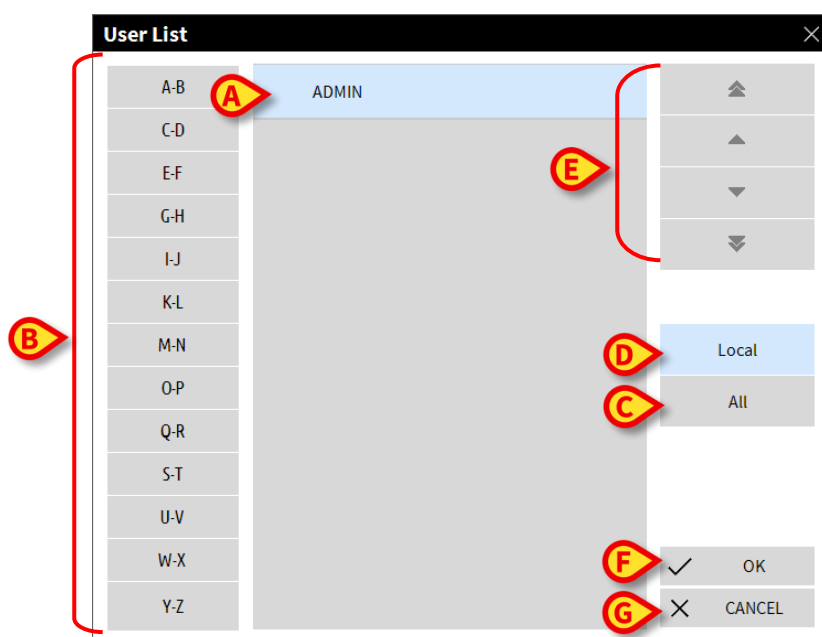

Fig 12
The following window is displayed (Fig 12).
The window shown in Fig 12 can be used as an index book enabling the search and selection of a user in the list of all the possible users.
The central part of the window shows the names of possible users, in alphabetical order (Fig 12 **A**).
The letters on the left side of the window (Fig 12 **B**) work like an index and make it possible to see only the users whose names begin with a specific letter.
Use the **All** button (Fig 12 **C**) to see the list of all possible users.
Use the **Local** button (Fig 12 **D**) to see the list of users relating to the specific workstation on which you are currently working.
Use the arrows on the right side of the window (Fig 12 **E**) to scroll up and down the list of users.
- Click the **Ok** button (Fig 12 **F**)
Use the **Cancel** button (Fig 12 **G**) to cancel the operation and close the “User list” window without selecting any user.